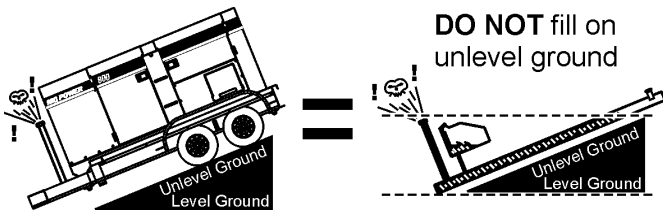

Figure 28. Only Fill on Level Ground
1. **Level Tanks** — Make sure fuel cells are level with the ground. Failure to do so will cause fuel to spill from the tank before reaching full capacity (Figure 28).